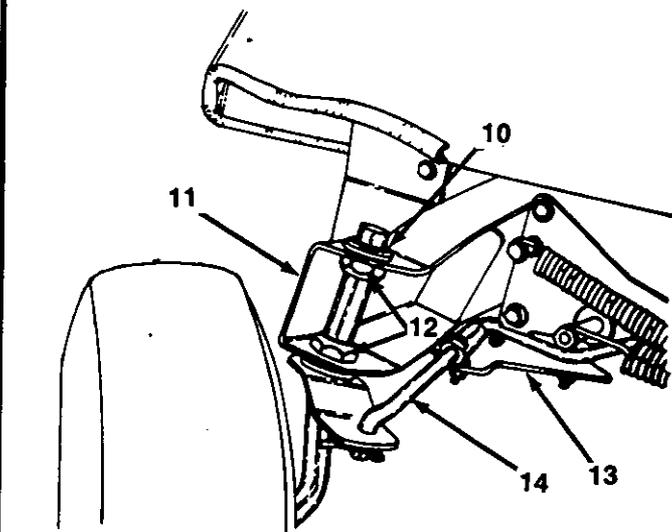

FIGURE 5.
3. Remove the speed nut on top of axle assembly at the pivot bar. See figures 5 and 6.